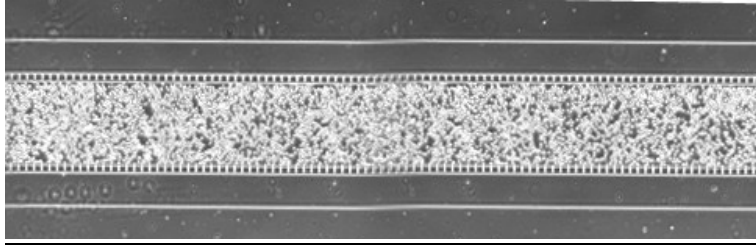

Figure 3. An example of microfluidic device with lung epithelial cells immediately after seeding.
11. Take an image of the cells (**Figure 3**).